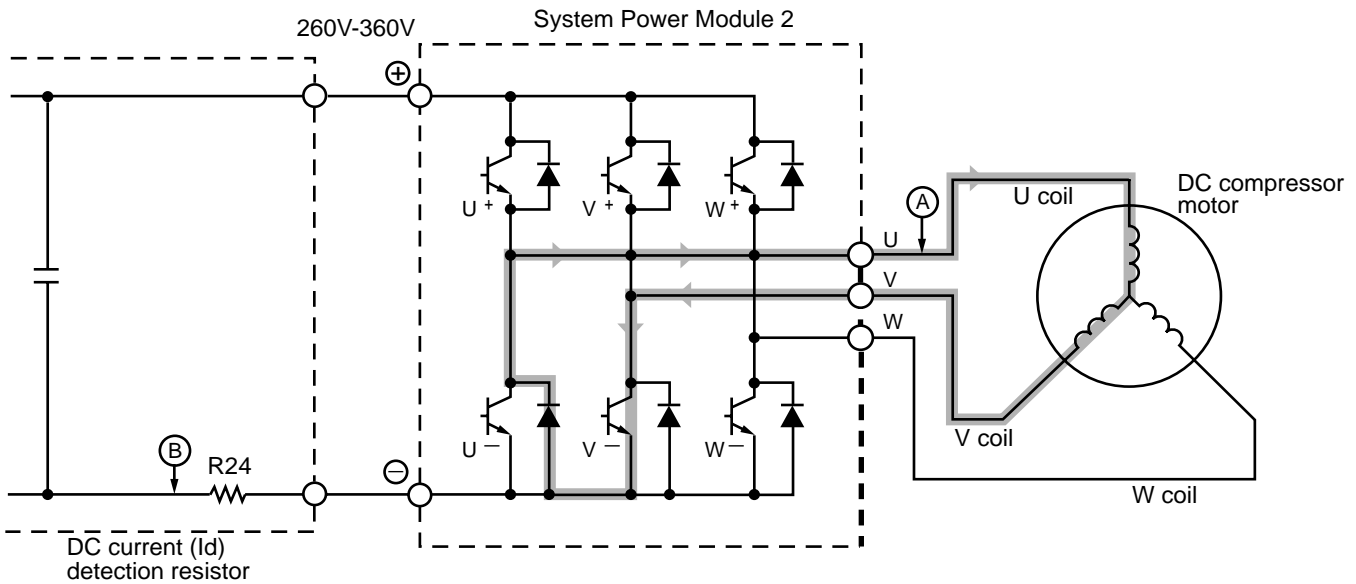

Fig. 3-4 Power module circuit (U⁺ is ON, V⁻ is ON)
- (2) When U⁺ transistor is OFF: (by inductance of motor coil) U coil → V coil → V⁻ transistor → Return diode → Point (A) (Fig. 3-4)